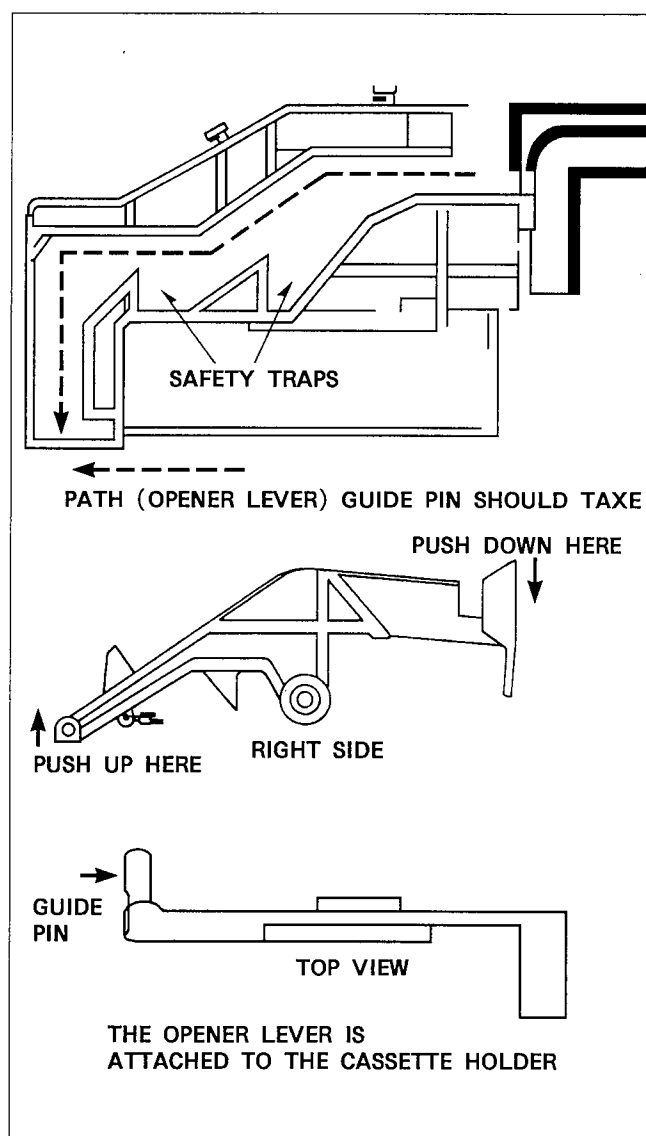

Figure M50-J Right Side Plate
9. Install the top plate on the Cassette Compartment Base and tighten the 3 screws (A) as shown in Figure M50-B.